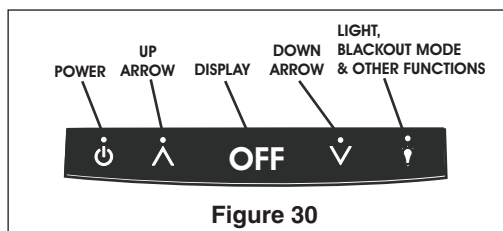

Figure 30
- b The display will switch from ICE to OFF to confirm that the ice maker is off. (See Figure 30.)